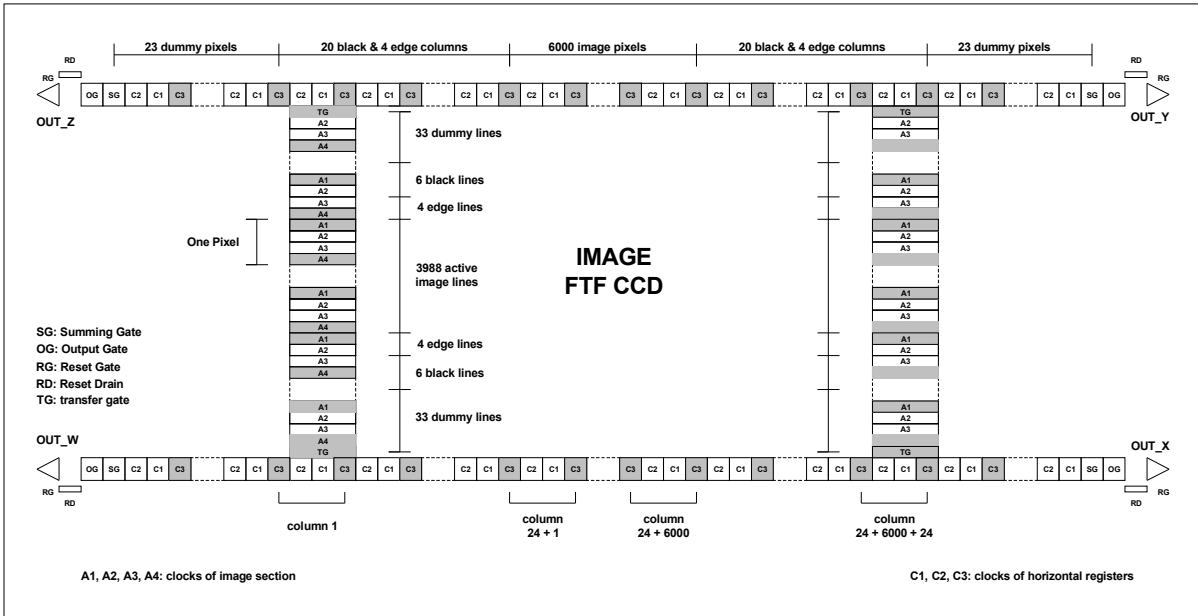

Figure 2: Detailed internal structure
gates of the lower and upper registers are part of the left half of the sensor (W and Z quadrants respectively). Each register can be used for vertical binning. Each register contains a summing gate at both ends that can be used for horizontal binning (see figure 2). The charge-to-voltage conversion is performed by a three-stage source follower amplifier (4 in total). The charge-to-voltage conversion node is reset to reset-drain voltage (RD) by pulsing the reset gate (RG). The amplifier power supply is SFD, the ground terminal is SFS. VNS and VPS are the bias voltages for the n-type substrate and for the CCD p-well, respectively.